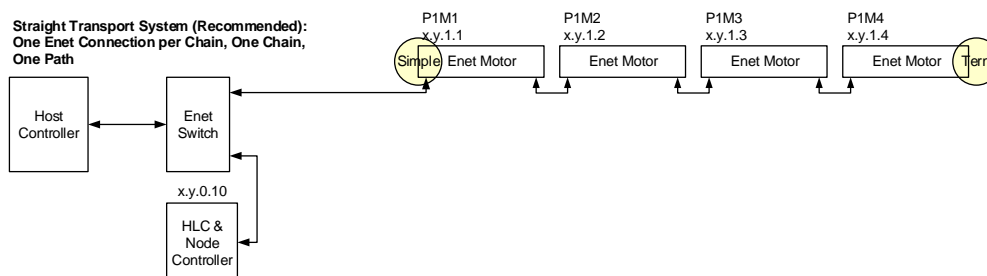
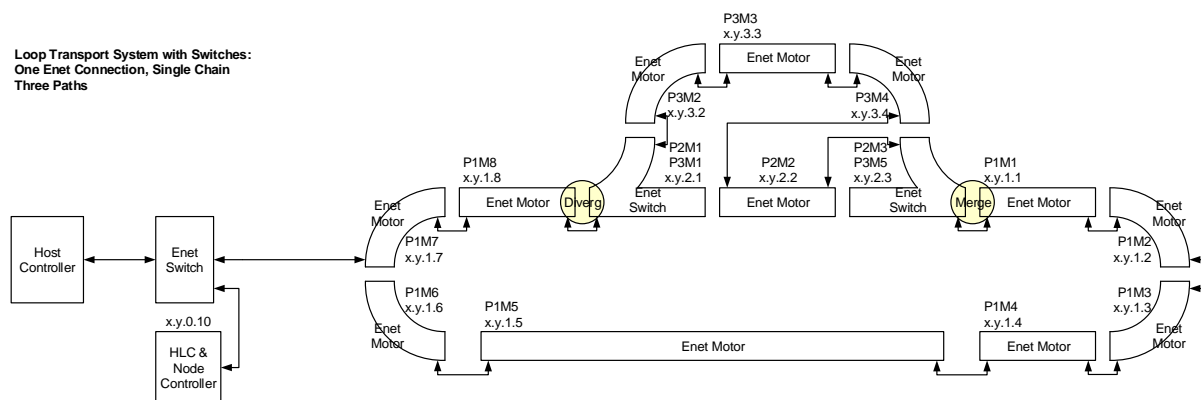
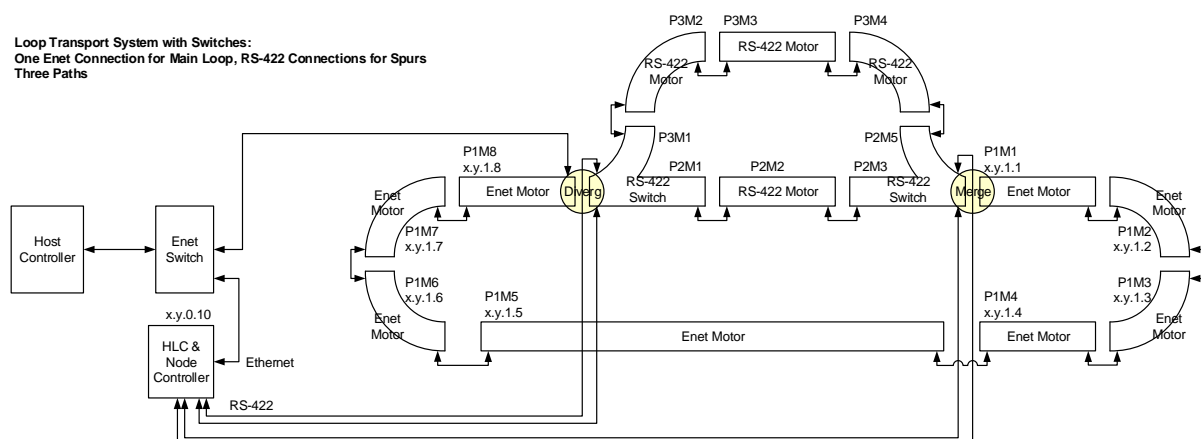

Figure 4: One Path, One Ethernet Chain
Figure 14: Three Paths, One Ethernet Chain, Main Loop and Spur
Figure 15: Three Paths, Ethernet Chain Main Loop and RS-422 Spur
The MagneMover LITE Ethernet motors can use different network style connection schemes depending on the application. When using Ethernet, all motors in a specific path must be connected to the same node controller (see Figure 4 through Figure 15). Additionally, multiple paths can be connected to the node controller using the same Ethernet chain.
- Only use Star or Chain Ethernet connection topologies (see Figure 4 through Figure 14).